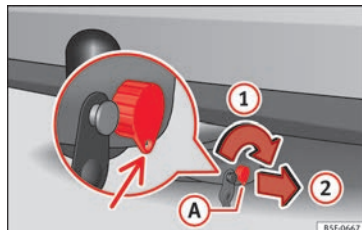
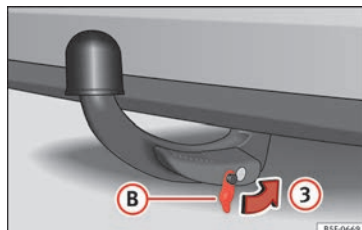

Fig. 218 Locking the lock.
Fig. 219 Placing the cover over the lock.
- Turn key A in the direction of arrow ① until the part of the key with the holes reaches the bottom position »» Fig. 218.
- Remove the key in the direction of arrow ②.
- Place cover ① in the lock in the direction of arrow ③ » Fig. 219 » ①.